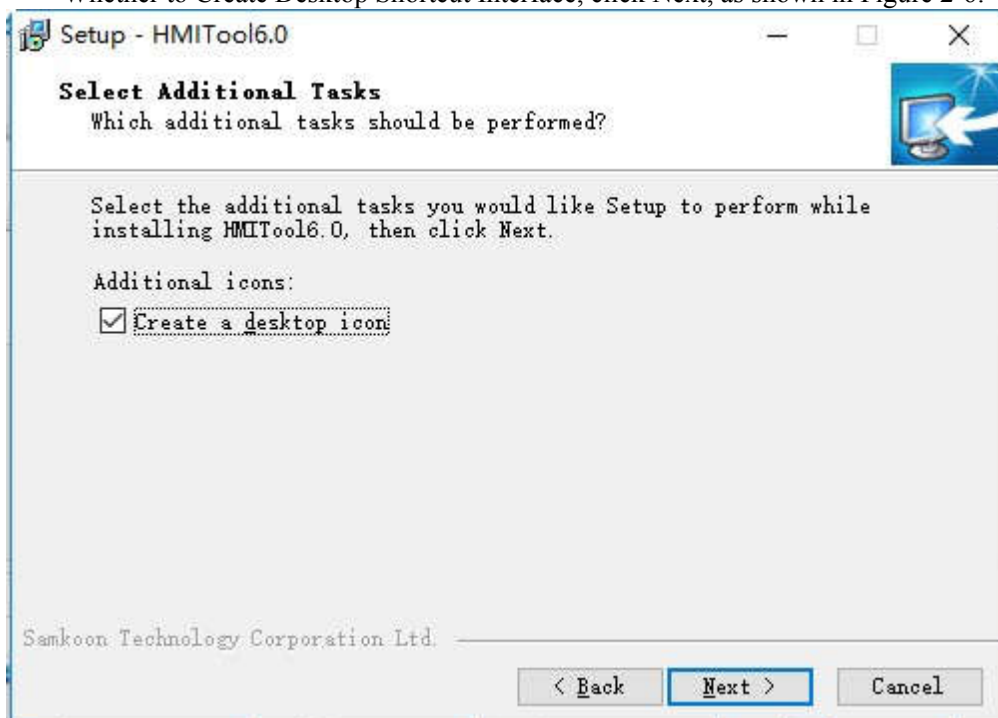

Figure 2-6 Whether to Create Desktop Shortcut Interface
- Whether to Create Desktop Shortcut Interface, click Next, as shown in Figure 2-6: